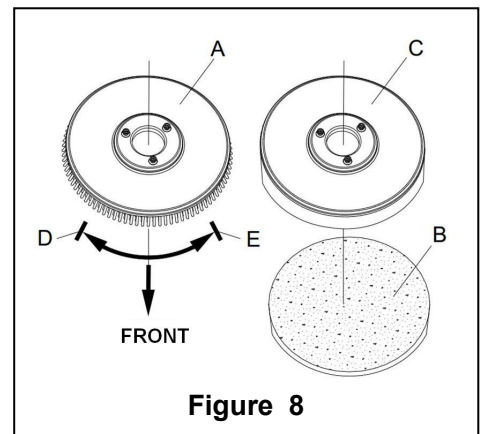

Figure 8
According to the type of floor to be cleaned, the machine may be installed with brush (Figure 8, A), or a pad-holder (Figure 8, B and C).
1. (Only applicable to **AS430B** and **AS510B**): make sure the switch (41) is at the disconnecting (O) condition.
2. Press down the handlebar (2) to lift the tank body (26).
3. Put the brush (A) or the pad-holder (B – C) under the case.
4. Use the handlebar (2) to lower the tank body (26) to come into contact with the brush or pad-holder.
5. To install the brush/pad-holder automatically, turn the power switch (41) to the "I" position and press down the safety switch (1). Gently push the machine forward so as to allow the belt wheel at the bottom of the tank body to align with the brush or pad-holder which can then be installed. Then release the safety switch. If necessary, repeat this procedure until the brush/pad-holder is installed.
6. If Step 5 above proves to be difficult, use the manual method by following the arrow head (D) to install the brush/pad-holder (as shown in Figure 8).
7. To automatically unload the brush/pad-holder, turn the power switch (41) to the "O" position. Use the hand to hold the handlebar, and press the machine downwards until the guide wheel touches the floor and the brush/pad-holder hangs in the air. Turn the power switch (41) to the "I" position, and press down the safety switch to let the brush or pad-holder turn until the brush/pad-holder drops to the floor.
8. If Step No. 7 above proves to be difficult, use the manual method by turning the brush/pad-holder in the direction opposite to the normal turning direction, and it can be taken off. (as shown in Figure 8)